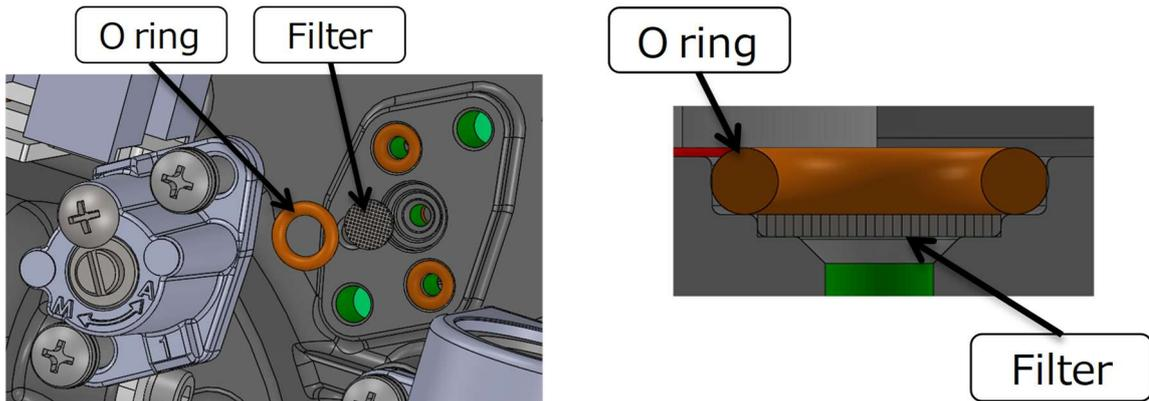

Figure 5.4.2 Wire mesh filter part
5. While taking care of the position of O ring and the filter, replace these (Refer to figure 5.4.2).